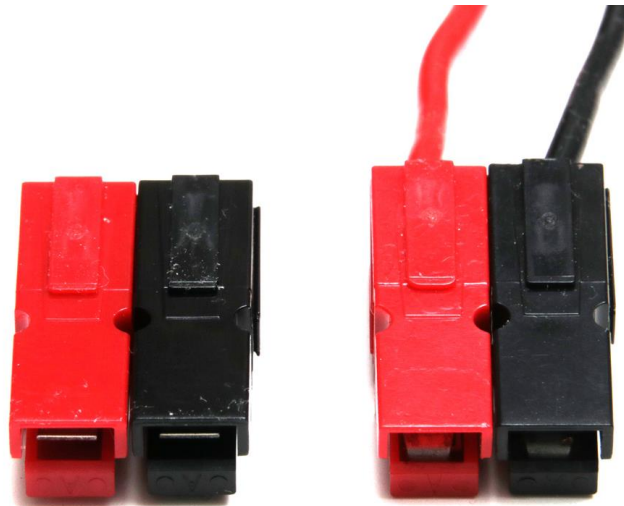

Figure 6. Proper Anderson Powerpole polarity to match tunnel wiring
- To interface with the PCC, the competition load, and the storage element, wires should be terminated with Anderson Powerpole connectors, PP15-45 (a red and a black, for positive and negative, respectively). See Figure 6 for correct polarity. Incorrect polarity must be corrected before testing. Teams are expected to provide their own Powerpole connectors of appropriate size: 15A, 30 A, or 45 A, which are specified to handle wire gauges from 10 American wire gauge (AWG) through 20 AWG. Each team can choose the wire size it wants to use in this range as long as the appropriate current-carrying capacities are taken into consideration. All three pin sizes fit into the same housing (PP15-45), as stated above.